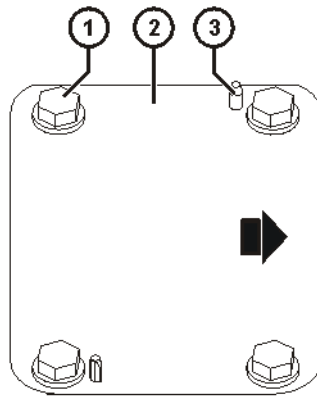

Fig. 8-2: Installation of the machine frame mounting assembly
1. Clean the mounting surface of the robot (>>> Fig. 8-2).